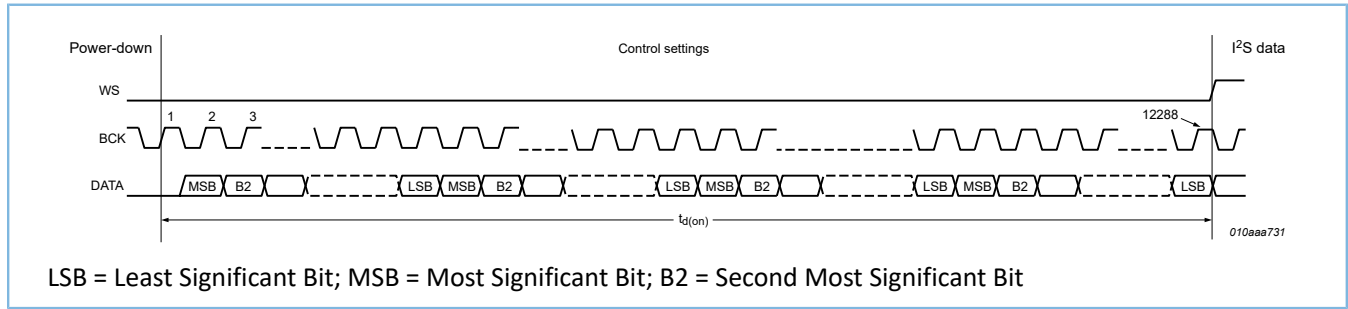

Figure 8-3: Power-up/power-down timing (without control settings)
The TFA9882 can detect control settings via the I^2S input. Control settings are selected by transmitting control patterns on the DATA input during the power-up sequence (the first 12288-bit clock cycles). The word select signal (WS) must be switched off during this interval. Figure 8-3 illustrates the control setting sequence. After receiving 128 consecutive